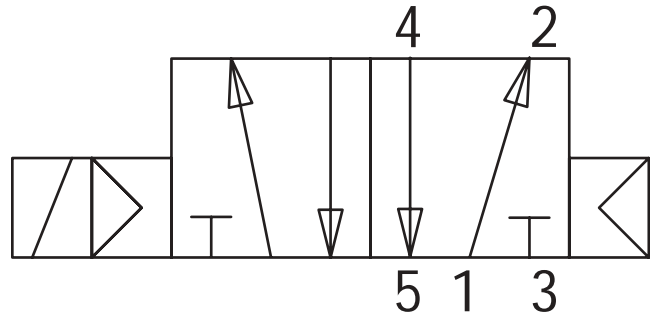
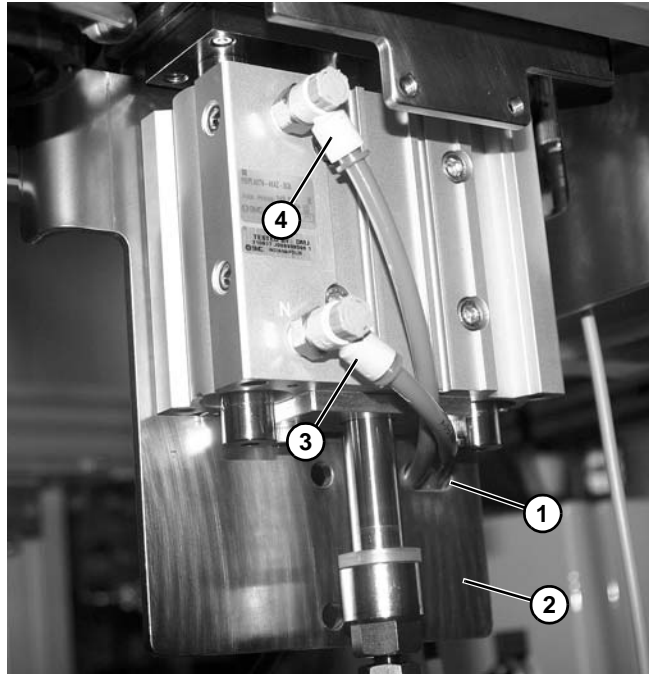

Figure 23
Figure 25
Dorner recommends using a 5-port, 2-way solenoid valve (**Figure 23**) to operate the Lift and Locate Pallet Unit.
4. Connect Port 4 (Figure 23) of the 5–port 2–way solenoid through the slotted opening (Figure 25, item 1) in plate (Figure 25, item 2) and to the lowest port (Figure 25, item 3) on the lift. Dorner fittings accept 1/4" outside diameter tubing standard.
5. Connect Port 2 (Figure 23) of the 5–port, 2–way solenoid through the slotted opening (Figure 25, item 1) in plate (Figure 25, item 2) to the upper port (Figure 25, item 4) on the lift. Dorner fittings accept 1/4" outside diameter tubing standard.